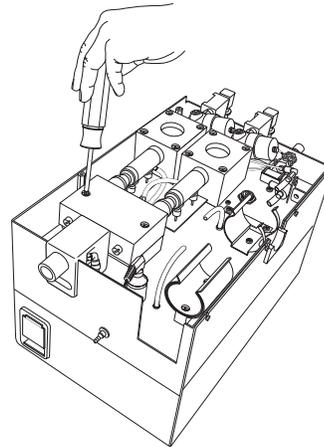
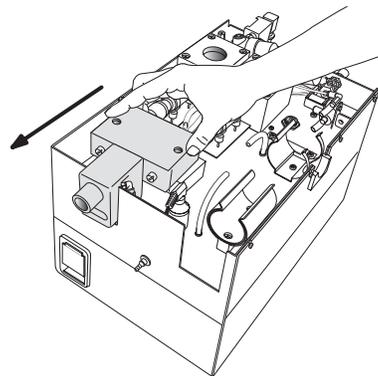

Figure 4-12
Figure 4-13
- 1 Remove the two screws and washers securing the mixer assembly (see Figure 4-12).
- 2 Carefully slide the mixer/manifold assembly forward to disengage the flow sensors from the mixer (see Figure 4-13).
- 1** Loosen the two screws holding the mixing chamber/inspiratory manifold assembly (Figure 4-12) and slide it forward to disengage the flow sensors from the mixing chamber (Figure 4-13).